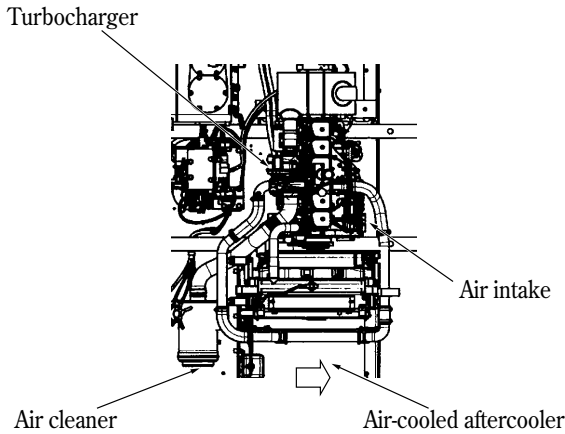

Fig. 4 Air-cooled Aftercooler
- (1) A newly developed Komatsu's SAA6D102E engine was mounted on the new PC200-7 machine to allow it to acquire a higher output and a lower fuel consumption. As a result, a higher horsepower of 145 PS was obtained as against 135 PS of its precursor PC200-6. In addition, an air-cooled aftercooler was newly adopted, which accomplished a lower fuel consumption through improving the combustion efficiency. (See Fig. 4)